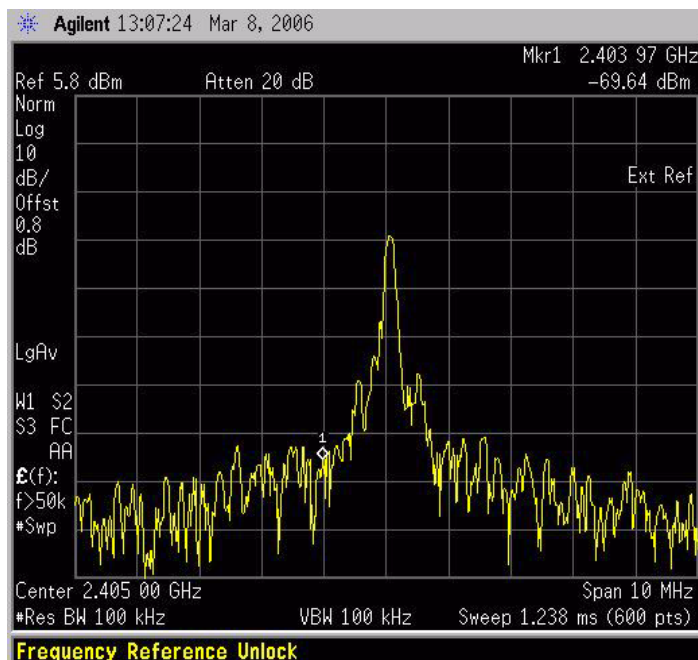

Figure 35. Spectrum Analyzer Capture (CW Mode)
Figure 35 shows Continuous Wave (CW) Mode.